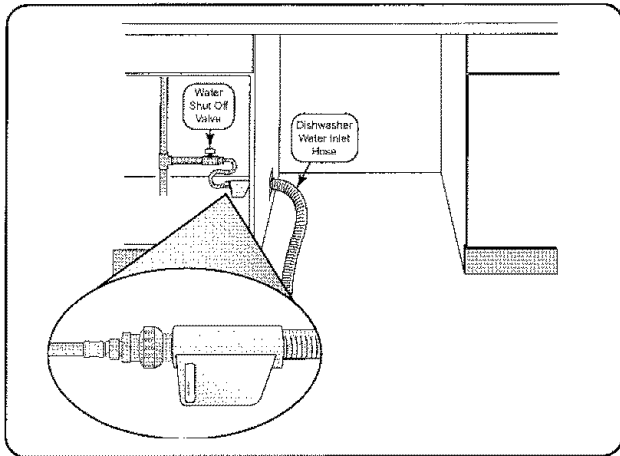

Figure 7
Install an easily accessible shut-off valve (not supplied) in the hot water supply line, as shown in Figure 7. All solder connections must be made before the water line is connected to the dishwasher.
1. Assemble the water supply adaptor fitting from the parts bag onto the dishwasher water supply hose (see Figure 7). This connection does not require Teflon brand tape.
NOTE: The end of the dishwasher water inlet hose is heavy and will need to be supported. It is best to lay the end on the cabinet floor as shown in Figure 7.